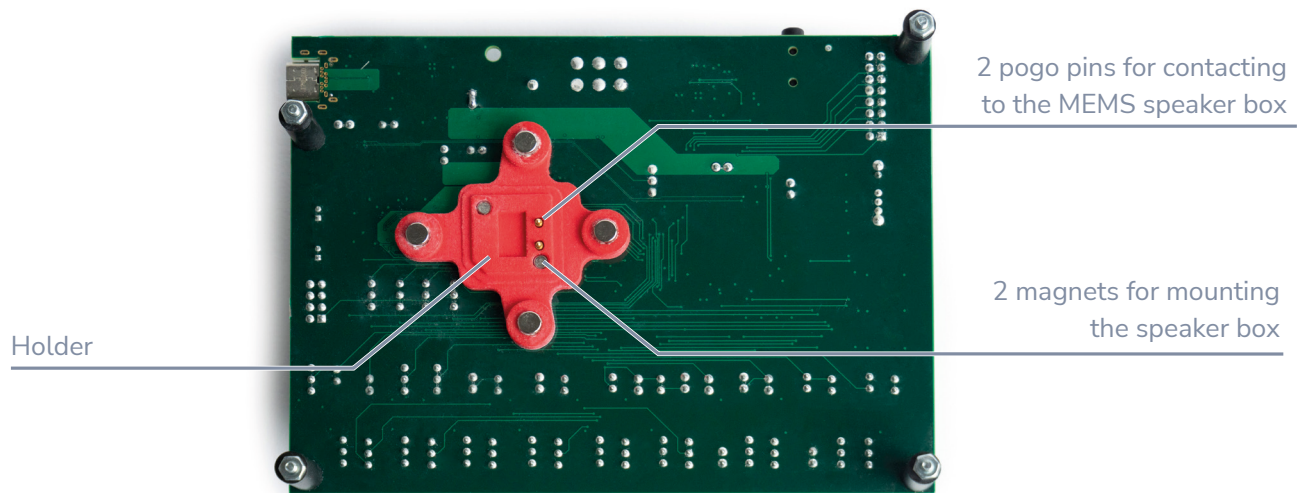

Figure 4: Speaker box holder and electrical connections on the smart audio amplifier evaluation board UC-E2120.
- To connect to the **smart audio amplifier evaluation board, UC-E2120**, no cable is needed. The electrical connection is made via pogo-pins on the holder, attached to the board that directly connects to the connection PCB, as shown in Figure 4. The speaker box has 2 magnets, which allow the box to be well fixed to the holder, as shown in Figure 5. For more details, please refer to the evaluation board UC-E2120 user manual.